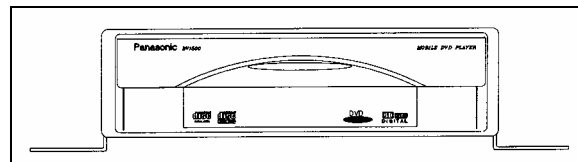

FIGURE 17: PANASONIC DV1500
1. Check cylinder for hand tightness and fuel supply (Fig. 17). Empty cylinder weight is approximately 17 oz (480 g); full cylinder weight is approximately 35 oz (990 g). If cylinder is empty, replace it. Before replacing cylinder, install new valve gasket in solenoid valve.